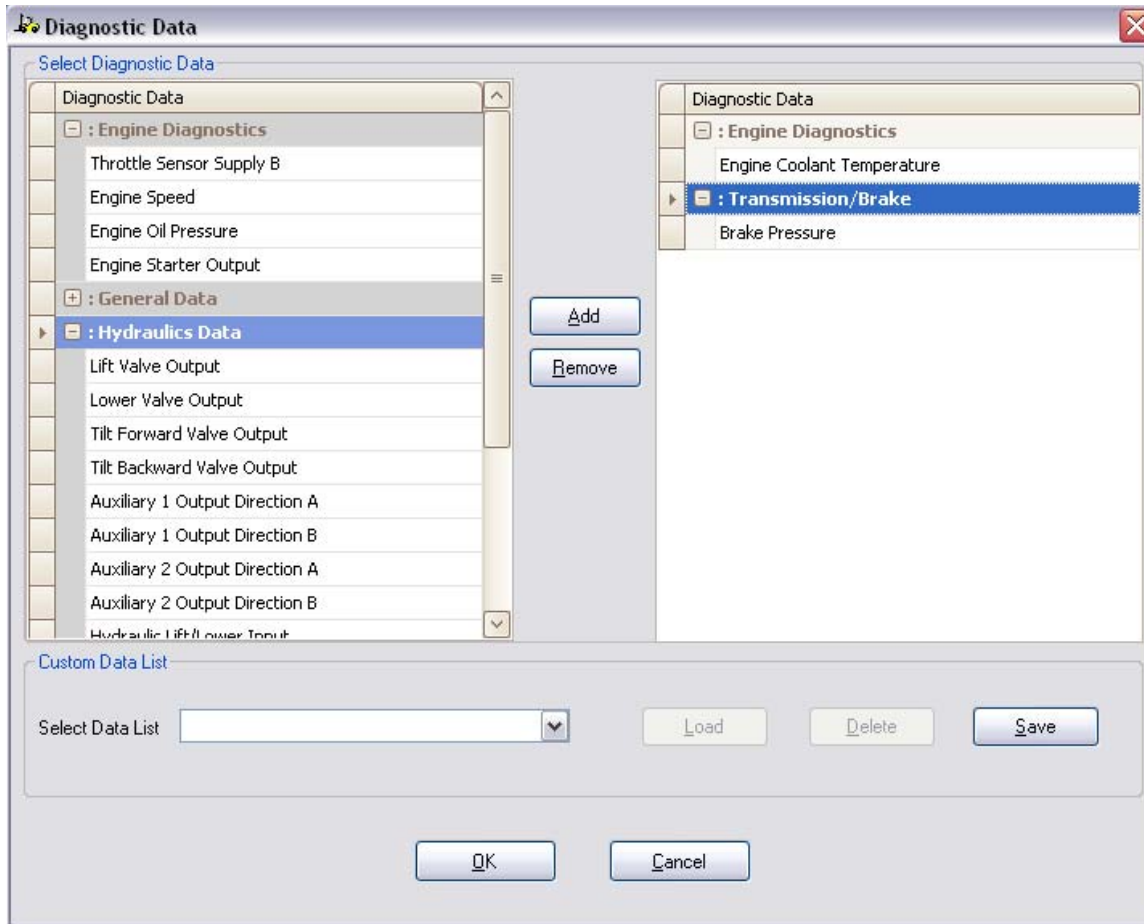

Figure 13: Select Custom Data Monitor Window
1. Select **Diagnostics >> Custom Data Monitor**. This displays a screen like the one depicted in Figure 13.